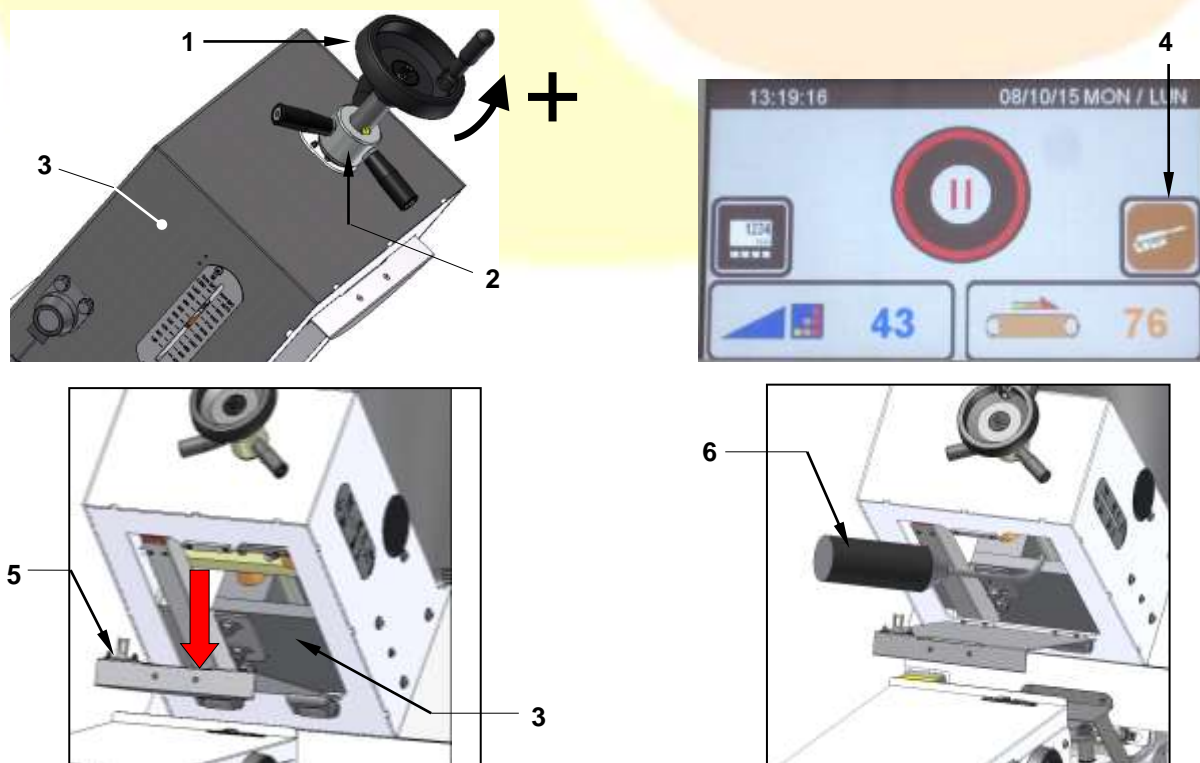

Figure 28 – Cleaning the weight chamber
With reference to Figure 28, to clean the weight chamber ref. 3, proceed as follows:
- turn the weight adjustment flywheel counter-clockwise ref. 1 until the end of its stroke upwards (maximum weight), then tighten the locknut ref. 2
- Open the interlocked door ref. 5 under the weight chamber and remove the residual dough; Using an ampoule with a spout (in Figure 28 there is an illustration with ref. 6) and/or a brush, spread the sunflower seed oil on the inner surfaces of the weight chamber; use the brush to distribute the oil evenly
- ATTENTION! Before closing the door ref. 5, check that there are no objects remaining in the weight chamber (rags, brushes, etc.); if objects are left in the weight chamber, they could cause serious damage to the machine the next time it is started up.**